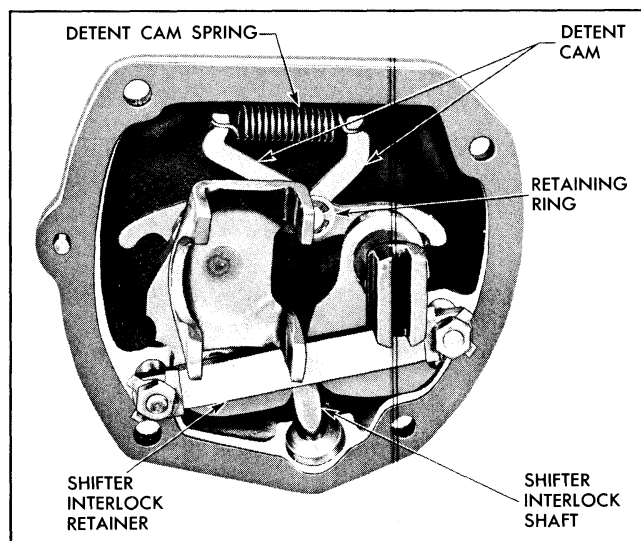

Fig. 7-12 Transmission Side Cover—Inner View
1. Remove nuts and locks from shifter interlock retainer and remove retainer (Fig. 7-12).
2. Remove detent cam spring to release detent cam (Fig. 7-12).
4. Remove retaining ring and remove detent cam (Fig. 7-12).